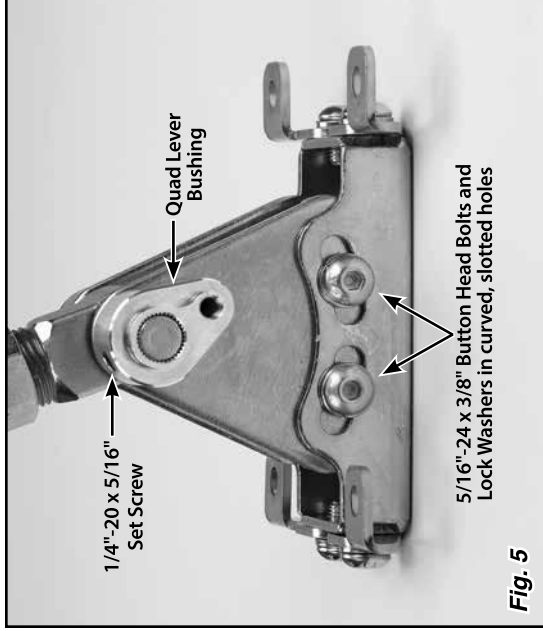

Fig. 5
Step 5: Make sure the two 5/16"-24 x 3/8" button head bolts and lock washers that are in the curved, slotted holes in the driver side of the floor mount mounting bracket are tight using a 3/16" Allen wrench. Place the Shifter in the desired location on the vehicle's floor. Make sure the shifter lever will not interfere with the dash when in Park, or with the seat when in low gear. The shifter assembly may be tilted forward or backward if needed by loosening the two 5/16"-24 x 3/8" button head bolts and lock washers that are in the curved, slotted holes in the driver side of the floor mount mounting bracket. Retighten the button head bolts and lock washers in the curved, slotted holes once you have the shifter assembly at the angle you want. **Fig. 5**